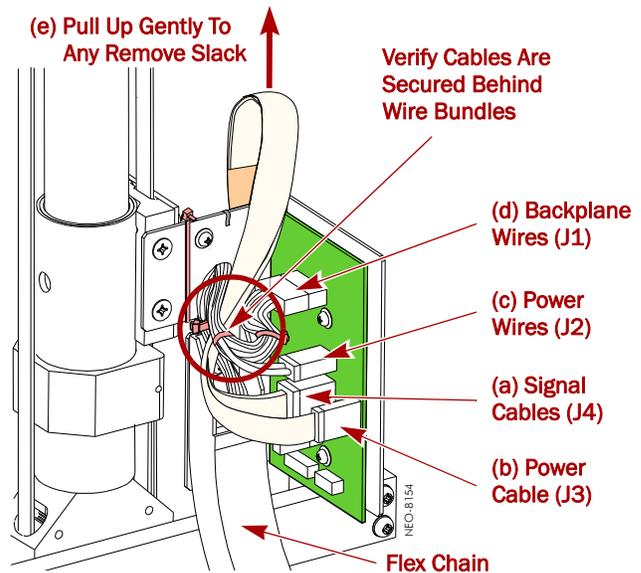

Figure 10. Rotary SPI Shuttle Cable Connections
6. In this order with the cables cleanly looped over the bracket (**Figure 10 with steps labeled**), attach the cables to the **Rotary SPI**: